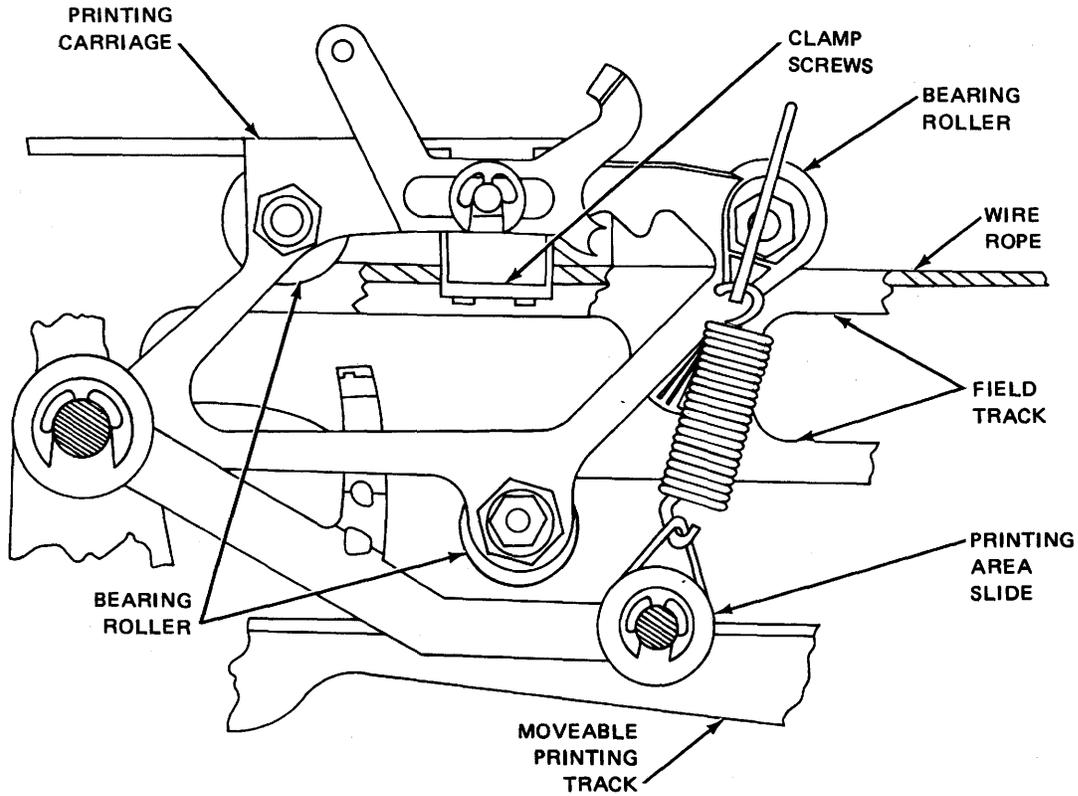

Figure 6-50. Printing Carriage (Front View).
d. Ensure bearing rollers engage field tracks on front plate mechanism (see figure 6-50).